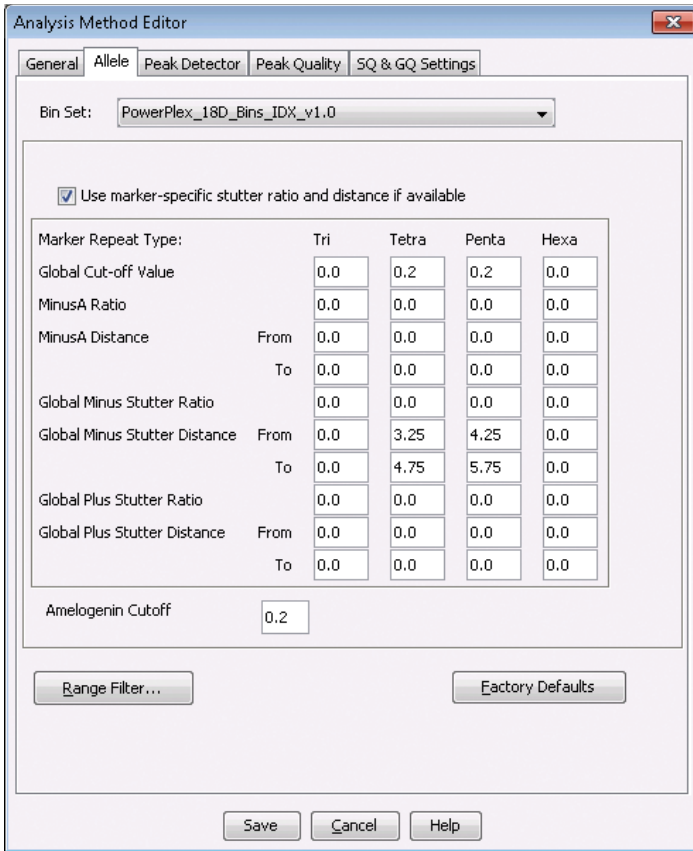

Figure 12. The GeneMapper® ID-X Software ‘Allele’ tab with settings for using a 20% peak filter.
6. Select the 'Allele' tab (Figure 12).
8. Ensure that the "Use marker-specific stutter ratio and distance if available" box is checked. Doing this will assign locus-specific stutter filters and distances from the imported stutter file. Ensure that the appropriate global filter is applied to this analysis method. For example, for a 20% filter enter "0.20" for the Amelogenin Cutoff and Global Cutoff Value for Tetra and Penta repeats (Figure 12). In-house validation should be performed.